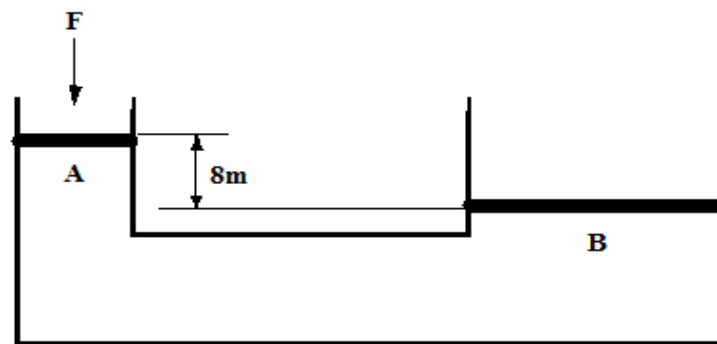

Figure 14
- 3) In Figure 14, the areas of the plunger A and cylinder B are  $60\text{mm}^2$  and  $600\text{mm}^2$ , respectively, and the weight of B is 9000 kN. The channel connecting A and B filled with oil having a specific gravity of 0.75. What force,  $F$  is required for equilibrium?